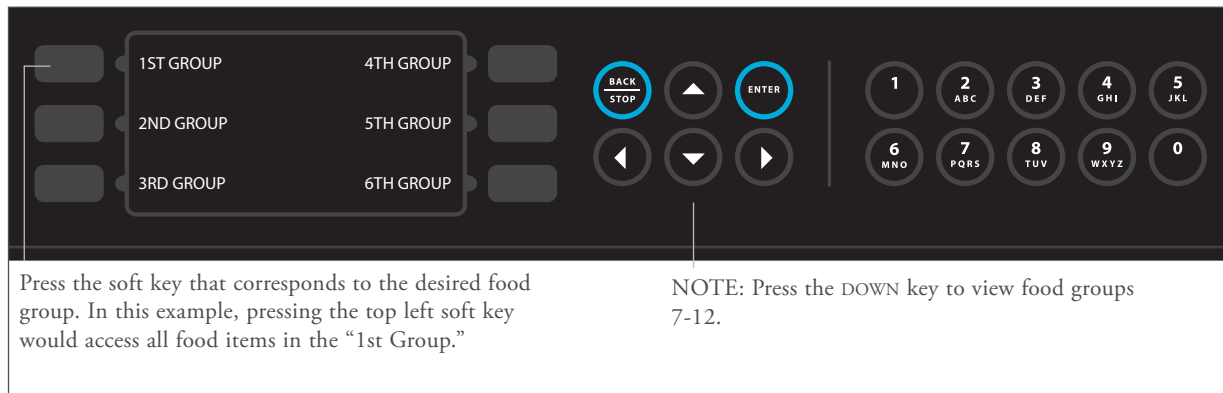

FIGURE 9: Selecting a Food Group
4. To select a food group, press the corresponding soft key (Figure 9).